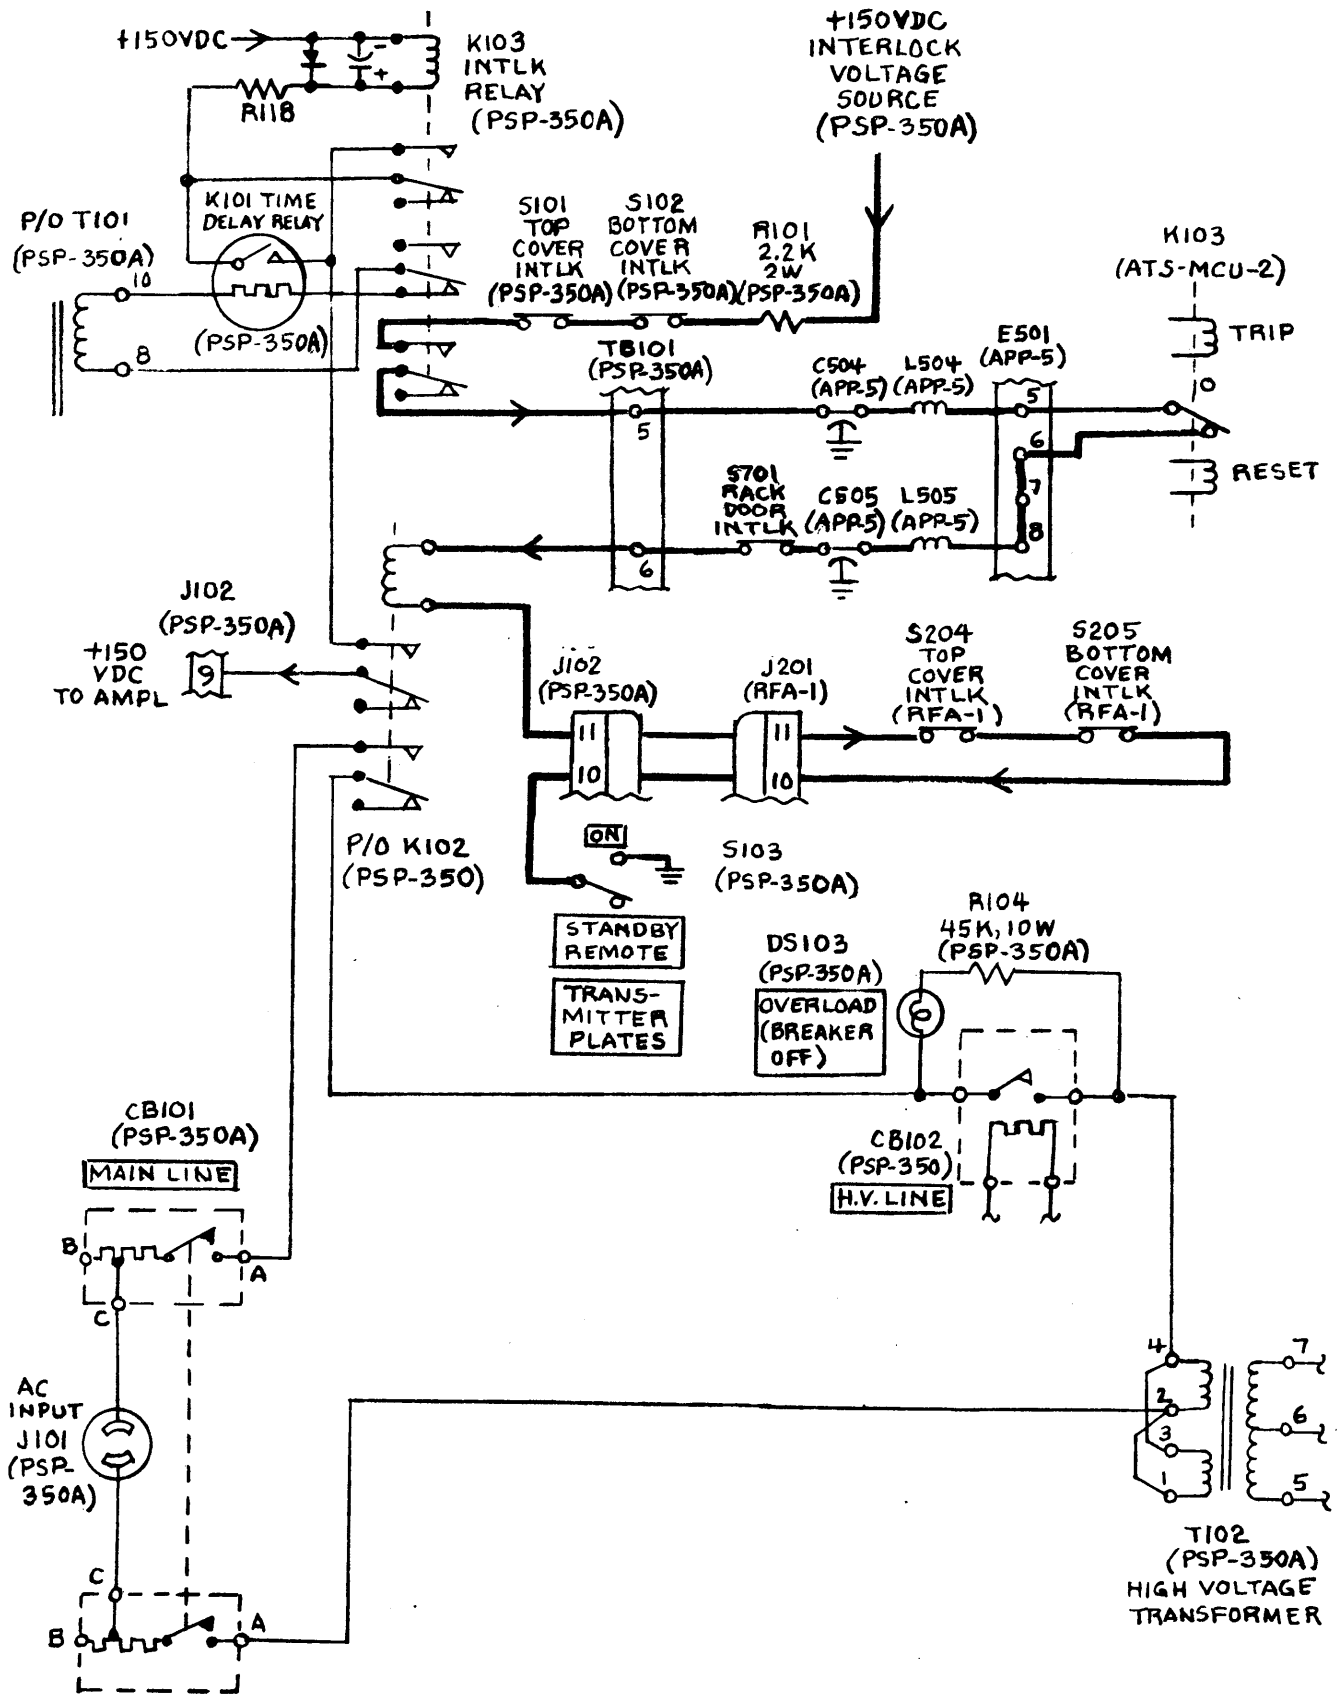

FIGURE 4-2. SAFETY INTERLOCK CIRCUIT, GPT-350D
e. INTERLOCK SYSTEM (Figure 4-2) - Figure 4-2 shows the complete GPT-350D safety interlock system. The purpose of the interlock system is to shut off high voltages when any one of a series of undesirable conditions exist, in order to protect personnel and equipment.